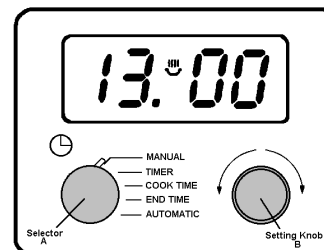

Fig.2
Turn and hold selector (A) to clock (🕒). Then turn setting knob (B) until the correct time of day is shown, e.g. 13.00 (1pm). Release both knobs, the display will stop flashing and the cookpot (🔥) symbol will glow. Fig. 2. Selector (A) will return to 'Manual'.